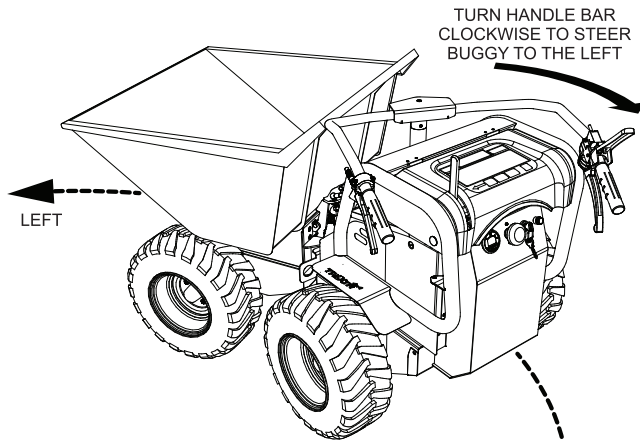

Figure 26. Steering the Mini Dumper (CW-Left)
1. To turn left (Figure 26) when traveling in the forward direction, turn the handle bar clockwise.